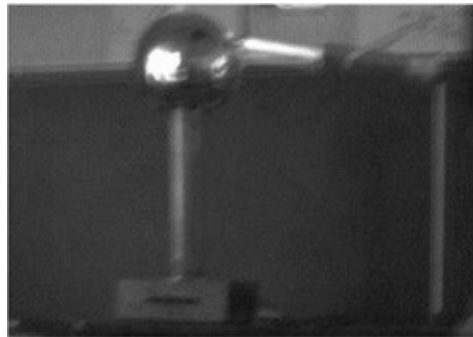

Figure 97-2 *Lighting a neon bulb by exposing it to an electric field.*
5. Position the neon bulb parallel to the floor on a line pointing perpendicular to the circumference of the conducting sphere, as shown in Figure 97-2. Move it closer and further from the van de Graaff and observe.